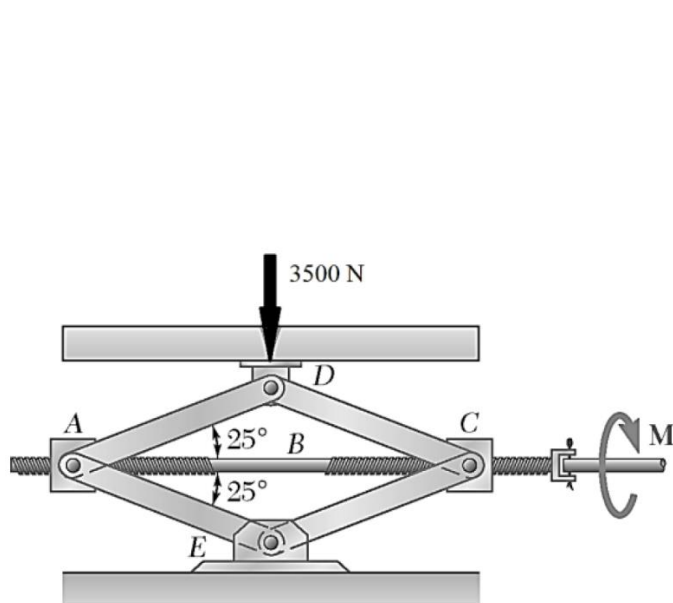

Fig. 1
**Q1.** The position of the automobile jack shown (Fig. 1) is controlled by a screw ABC that is single-threaded at each end (right-handed thread at A, left-handed thread at C). Each thread has a pitch of 2.5 mm and a mean diameter of 10 mm. If the coefficient of static friction is 0.15, determine the magnitude of the couple moment  $M$  that must be applied to raise the automobile. [10 marks]